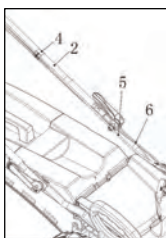

Fig. 3
7. Attach the self-propelling wire (5) and the brake wire (6) with the wire clip (4) on the upper handle bar (2) (Fig. 3)